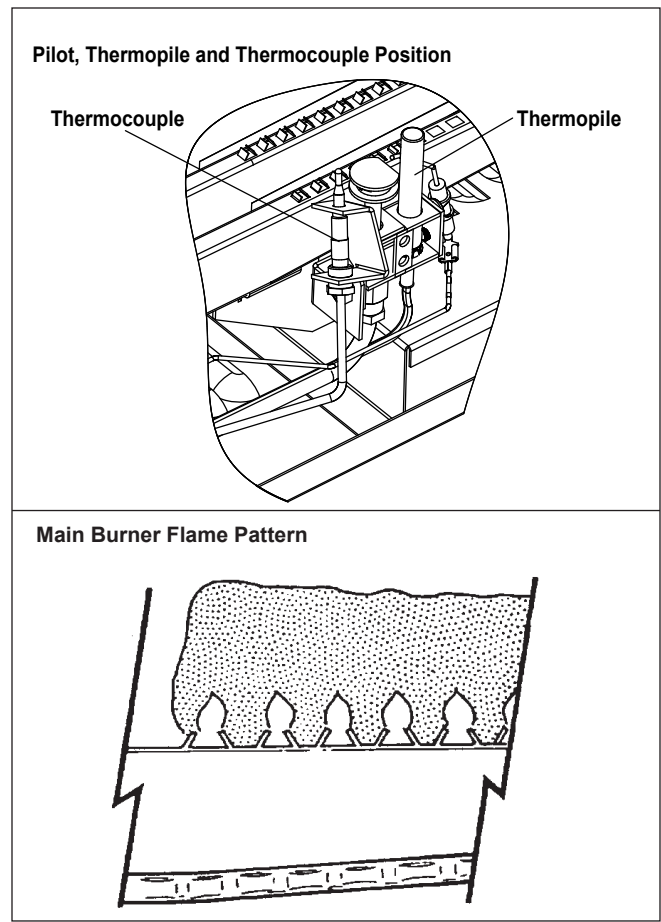

Figure 23. Pilot, Thermopile and Thermocouple Positions, and Main Burner Flame Patterns
- b. 25 mm to 102 mm above burner surface (see Figure 23).